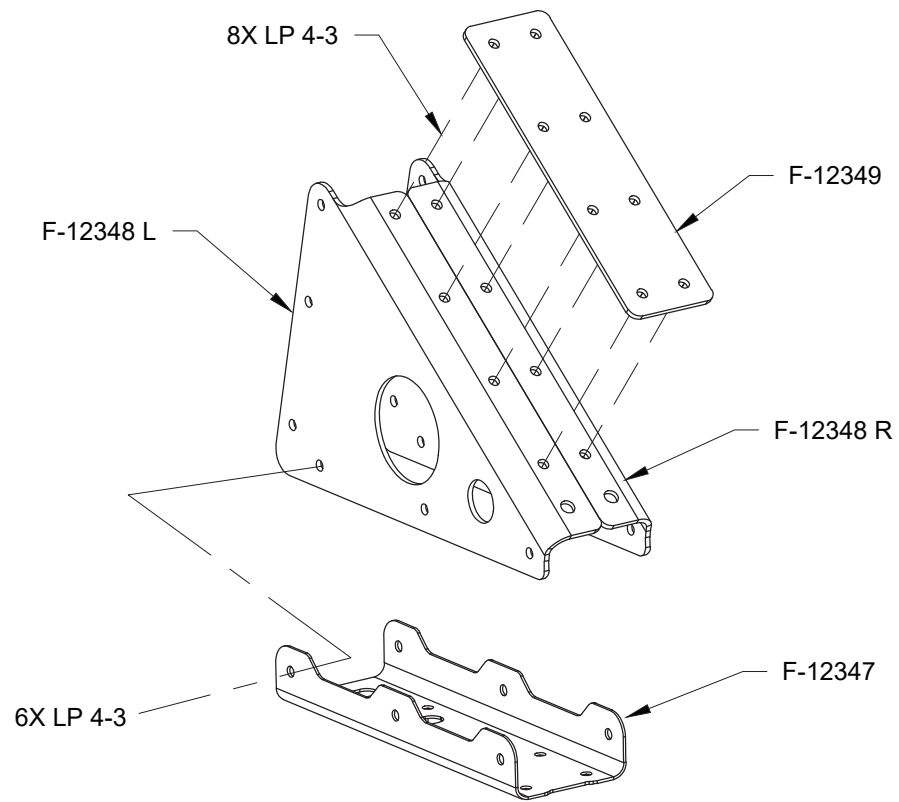

FIGURE 1: RIVETING THE FILTER CRADLE MOUNT
Step 1: Rivet F-12349 and F-12347 to F-12348 R and L as shown in Figure 1.